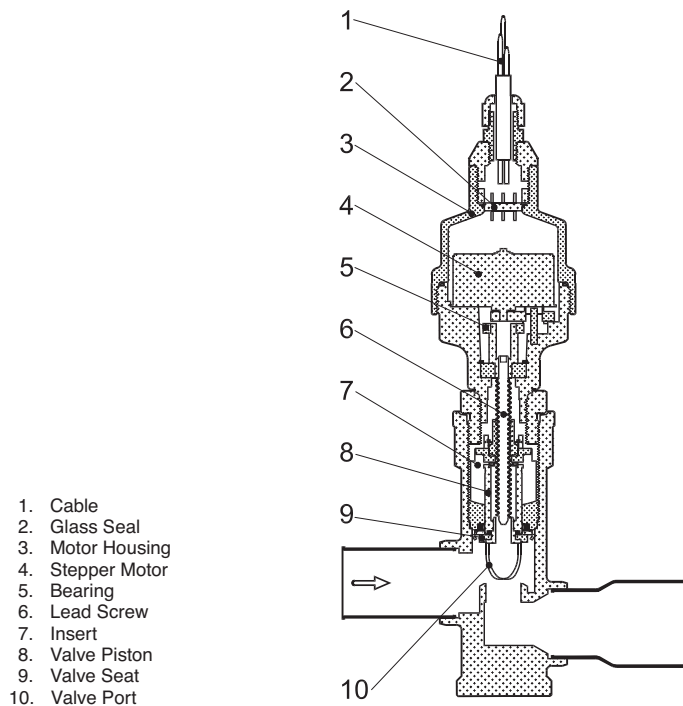

Fig. 24 — Cutaway View of the Electronic Expansion Valve
Electronic Expansion Valve (EXV) — See Fig. 24 for a cutaway view of the EXV. High-pressure liquid refrigerant enters valve through the top. As refrigerant passes through the orifice, pressure drops and refrigerant changes to a 2-phase condition (liquid and vapor). The electronic expansion valve operates through an electronically controlled activation of a stepper motor. The stepper motor stays in position, unless power pulses initiate the two discrete sets of motor stator windings for rotation in either direction. The direction depends on the phase relationship of the power pulses.
3. The expansion valve motor is hermetically sealed inside the top portion of the valve. See Fig. 24. Carefully unscrew the $1\frac{1}{16}$ in. (27 mm) retaining nut securing the motor portion to the body of the valve making sure the EXV plug is still connected. The EXV operator will come out with the motor portion of the device.
4. Enter the appropriate EXV test step under the (**Service Test** \rightarrow **QUIC**) sub-mode in the Service Test mode. Locate the desired item **Service Test** \rightarrow **QUIC** \rightarrow **EXV.A**, **Service Test** \rightarrow **QUIC** \rightarrow **EXV.B**, or **Service Test** \rightarrow **QUIC** \rightarrow **EXV.C**. Press **ENTER** twice to make the valve position of 0% flash. Press and hold \blacktriangle until 100% is displayed and press **ENTER**. Observe the operation of the lead screw. See Fig. 24. The motor should be turning, raising the operator closer to the motor. Motor actuator movement should be smooth and uniform from fully closed to fully open position. Press **ENTER** twice, use \blacktriangledown to select 0% and press **ENTER** again to check open to closed operation. If the valve is properly connected to the processor and receiving correct signals, yet does not operate as described above, the sealed motor portion of the valve should be replaced.